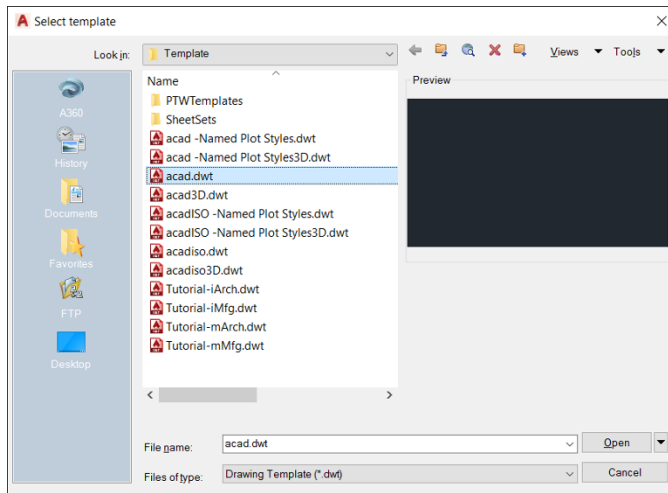

FIGURE 3-2:
- b. Select `acad.dwt`, as shown in Figure 3-2, and click Open. (In AutoCAD LT, select `acad1t.dwt`.)